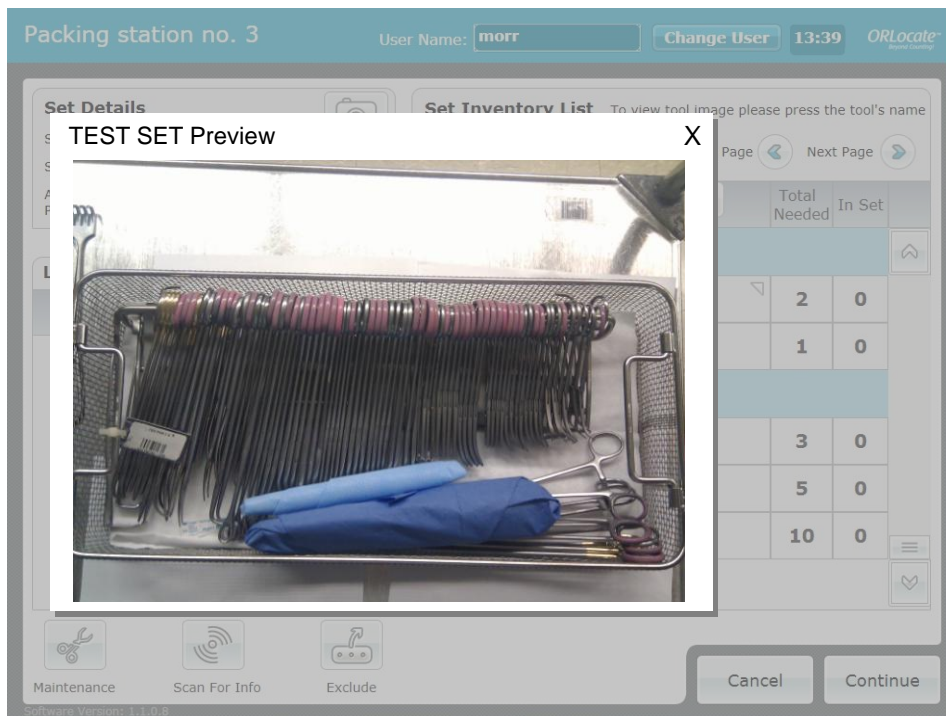

Figure 11
In the set details area appears the set type and ID and a progress bar that represents the progress of the set assembly (approximation) (1). Also in this area is a “Preview” button (2) – pressing the button will display a photo of a packed set, as shown in figure 11 below: